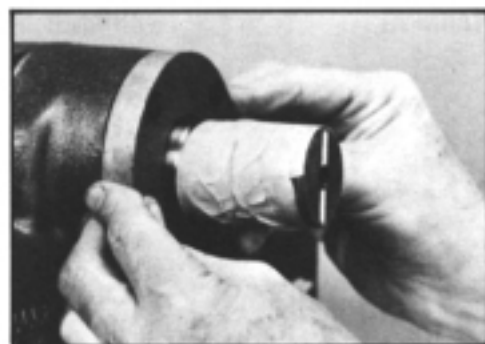
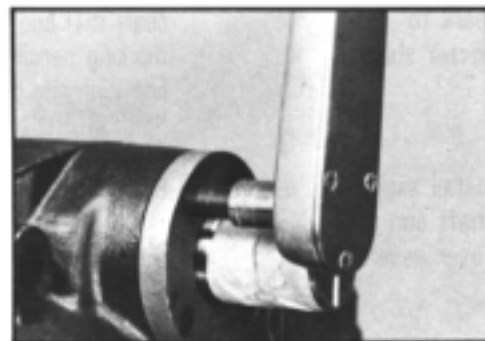

Figure 160
Figure 161
54. Pack seal area of sector shaft (51) with clean high temperature industrial grease per Ross specification 045231, Mobil Temp 1 or 2 or equivalent. Carefully install the trunnion cover (59). SEE FIGURE 160. Install the four trunnion cover screws (60) and torque them to 13-23 ft. lbs. (18-31 N m) if dry or 11-16 ft. lbs. (15-22 N m) if lubricated. A 5/16 inch 12 point thin wall socket required. SEE FIGURE 161.